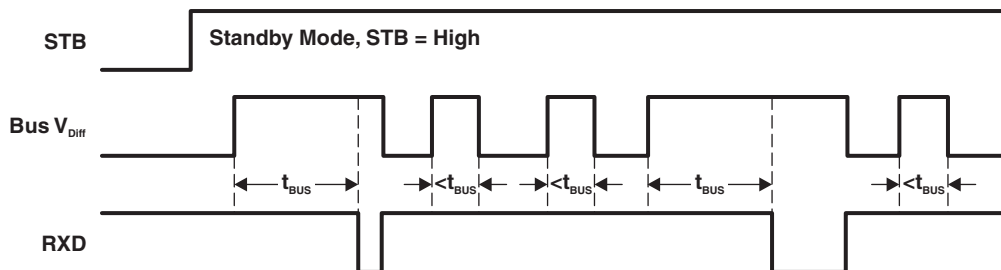
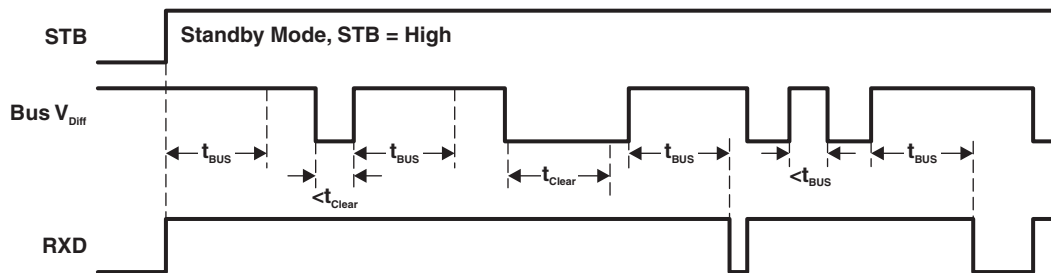

Figure 18. HVDA551 RXD Wake-Up Request With No Bus Fault Condition
Figure 19. HVDA551 RXD Wake-Up Request Lockout During Bus Dominant Fault Condition
- (2) See Figure 18 and Figure 19 for operation of the low-power wake-up receiver and bus monitor for RXD wake-up request behavior and Table 5 for the wake-up receiver threshold levels.
- (3) When V_{IO} is undervoltage, the device is forced into standby mode with respect to the CAN bus, because there is not a valid digital reference to determine the digital I/O states or power the wake-up receiver.
(1) Mirrors bus state: LOW if CAN bus is dominant, HIGH if CAN bus is recessive.
(2) See Figure 18 and Figure 19 for operation of the low-power wake-up receiver and bus monitor for RXD wake-up request behavior and Table 5 for the wake-up receiver threshold levels.
- (1) H = high level, L = low level, X = irrelevant, ? = indeterminate.
(2) While STB is high (standby mode) the RXD output of the HVDA551 functions according to the levels above and the wake-up conditions shown in Figure 18 and Figure 19.